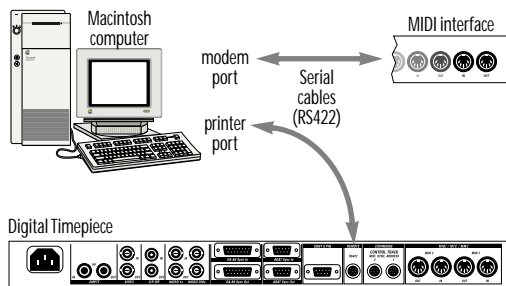
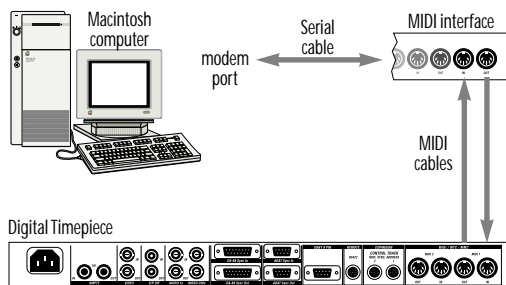

Figure 3-2: An example of how to connect a Macintosh computer to the Digital Timepiece via their serial ports.
Figure 3-3: An example of how to connect a Macintosh computer to the Digital Timepiece via a MIDI interface.
- With a standard RS422 (circular “DIN-8”) cable and the Digital Timepiece's built-in serial port (Figure 3-2)
- With MIDI cables and a separate MIDI interface (Figure 3-3)
When you connect the Digital Timepiece directly to the Macintosh's modem or printer port with a standard RS422 (DIN-8) cable (Figure 3-2), it acts as a standard 1 MHz MIDI interface. Set your MIDI software to 1 MHz on the serial port that the Digital Time Piece is connected to, and also be sure that your sequencer or DAW software has the ability to receive MTC from that serial port. Use the other serial port for your MIDI interface, if you have one.
When you connect the Digital Timepiece to a Macintosh via a MIDI interface (Figure 3-3), make sure that the interface is programmed to route MTC from the Digital Timepiece to the Macintosh. For example, some interfaces connect to both Mac serial ports and dedicate one serial port entirely to time code.
The Digital Timepiece's synchronization capabilities far exceed those of the MIDI Timepiece AV. Therefore, you will probably want to make the Digital Timepiece handle synchronization chores while the MIDI Timepiece AV takes care of MIDI processing and networking. For optimum flexibility, connect the Digital Timepiece to your Mac using a combination of the connections in Figure 3-2 and Figure 3-3. Or connect it to the Net port of the MIDI Timepiece AV.